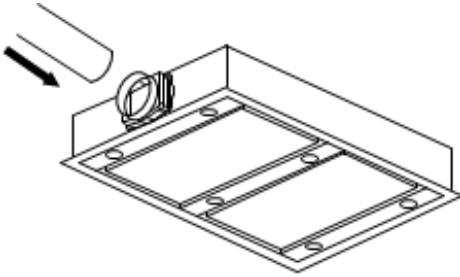

Fig 12
2. Mount the ducting onto the plastic connector of the hood (**Fig 12**).